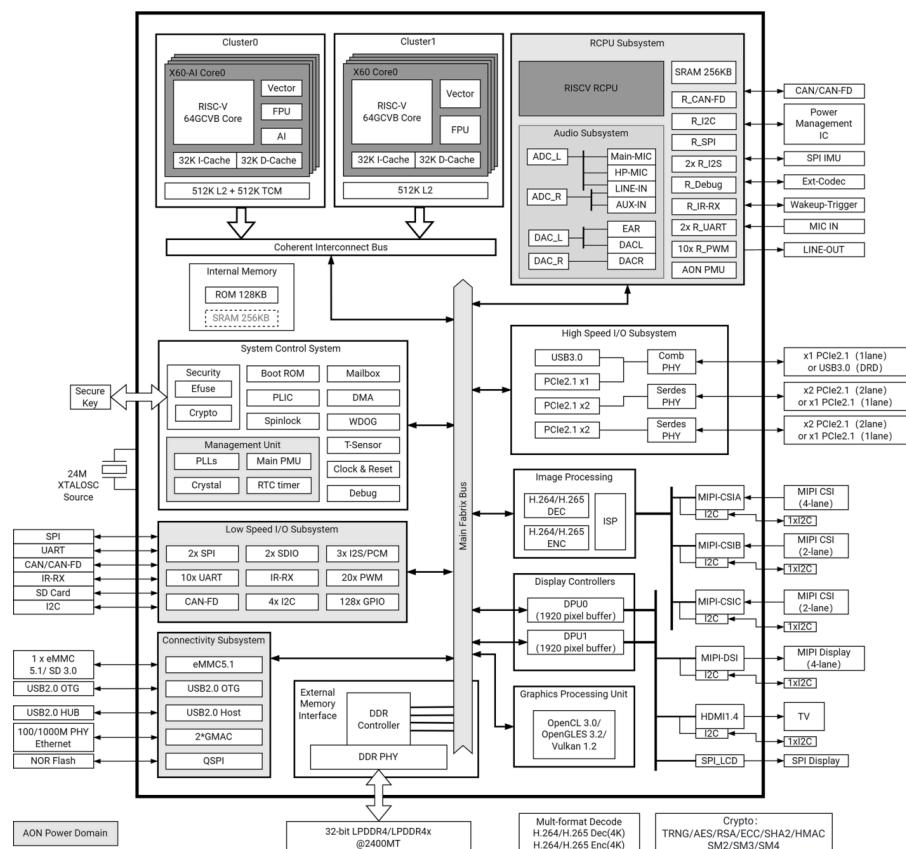

Figure 19: RISC-V K1 CPU diagram
a) Examine the cache hierarchy in the diagram (see Figure 19) for the SPacemit K1 RISC-V octa-core processor (see <https://www.spacemit.com/en/key-stone-k1/>) and explain the overall structure.